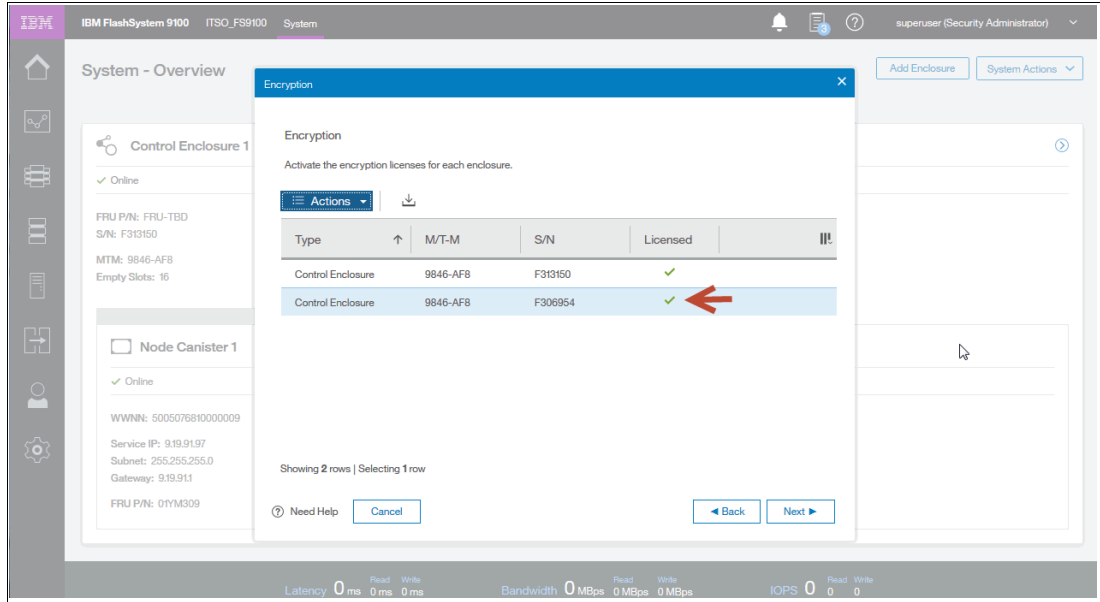

Figure 5-39 Encryption enabled
5. The new Control Enclosure Encryption License has been enabled, as shown in Figure 5-39.